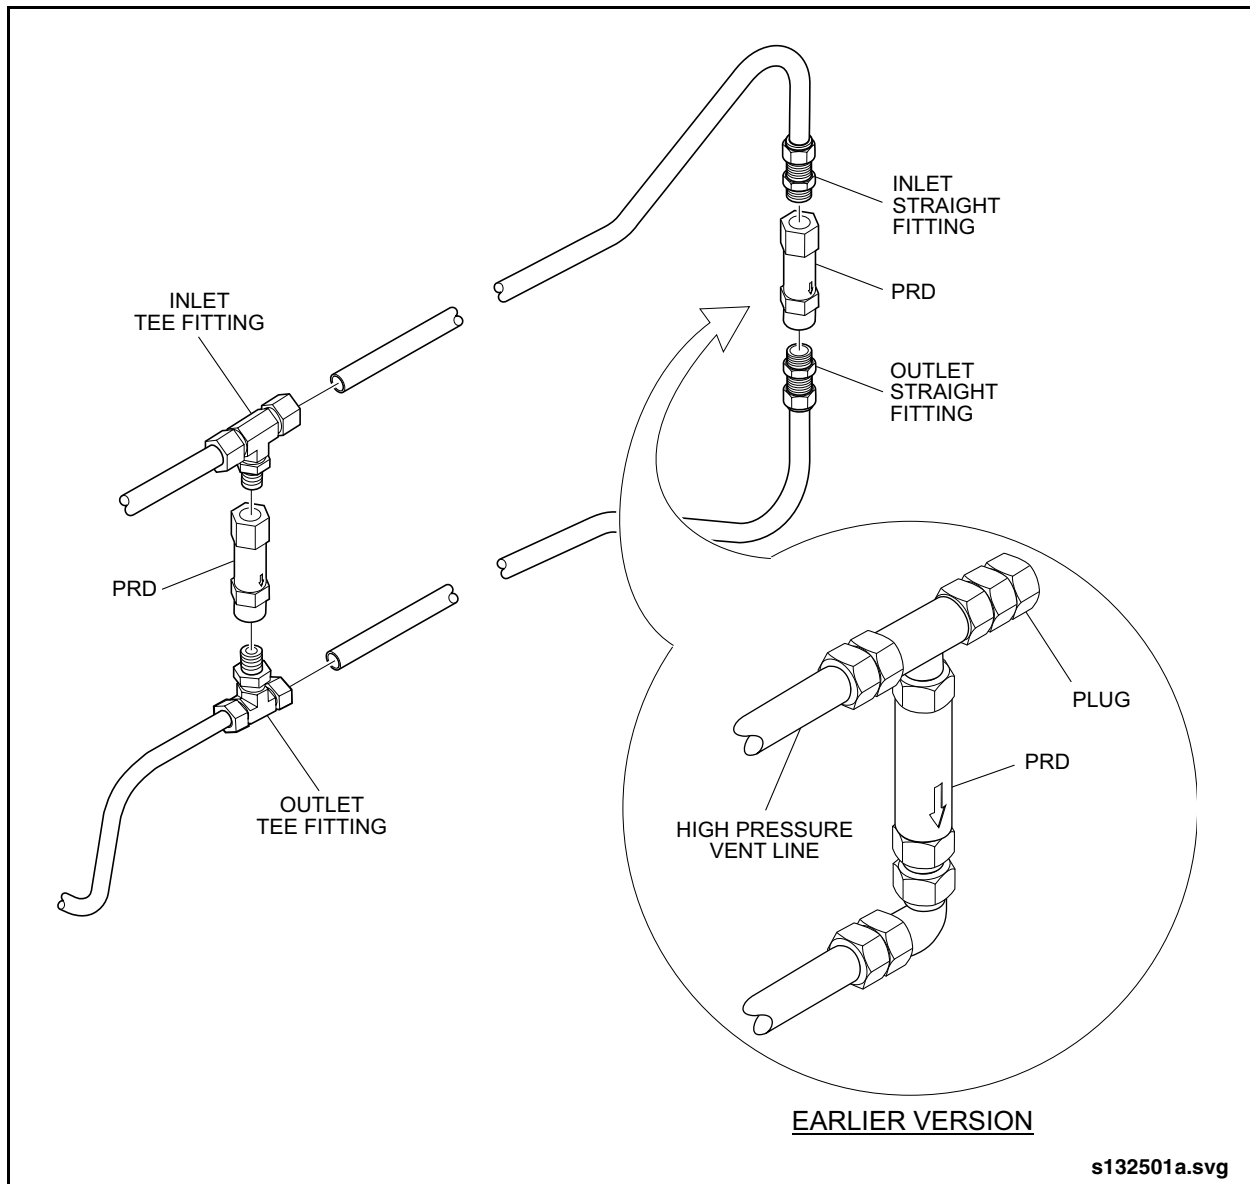

Fig. 1: Inline PRD Installation
- PRD's installed inline and located near the solenoid end of the tank. See "Fig. 1: Inline PRD Installation" on page 5. These PRD's will be connected with either tee or elbow fittings.
- PRD's installed inline and located nearest the opposite end of the tank. These PRD's will be connected to the vent lines with either straight fittings or, on earlier versions, with tee and elbow fittings. See "Fig. 1: Inline PRD Installation" on page 5.
- b. remove PRD from vehicle. See “Fig. 1: Inline PRD Installation” on page 5.